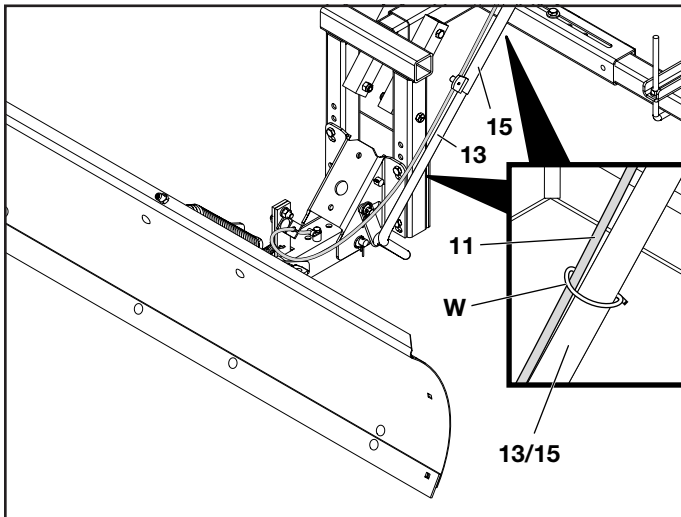

FIGURE 13
STEP 13: (SEE FIGURE 13)
- Secure the control cable in two places along the shaft of the lift handle assembly/lift handle tube assembly (13/15) with nylon tie (W) as shown.